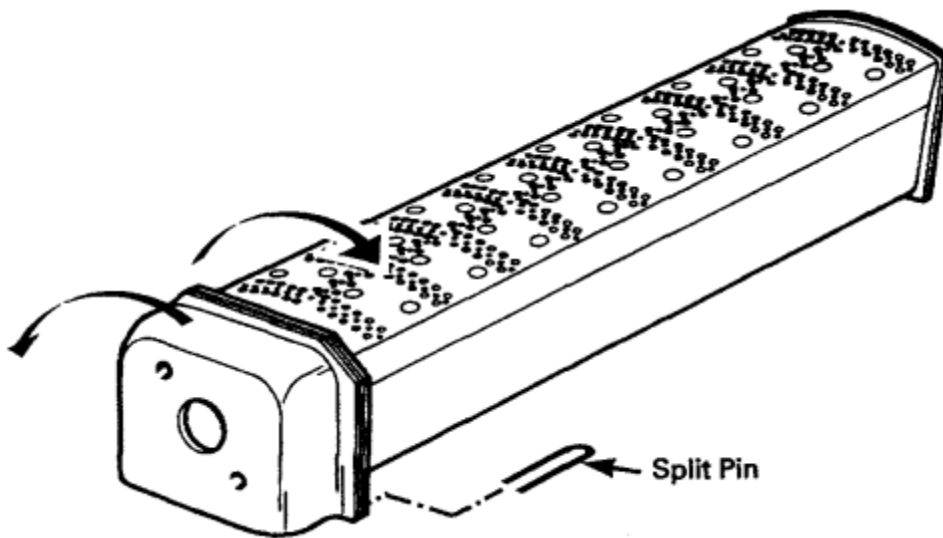

fig 14 - Burner (80/70)
- d) Remove the split pin on each burner manifold and twist each burner in the direction shown (Fig 14) to release the bayonet fitting and withdraw the venturi unit. Clear away any lint or deposits which may have accumulated inside the burners. Refit the venturi sections ensuring that the gaskets are not damaged. Refit the split pins.